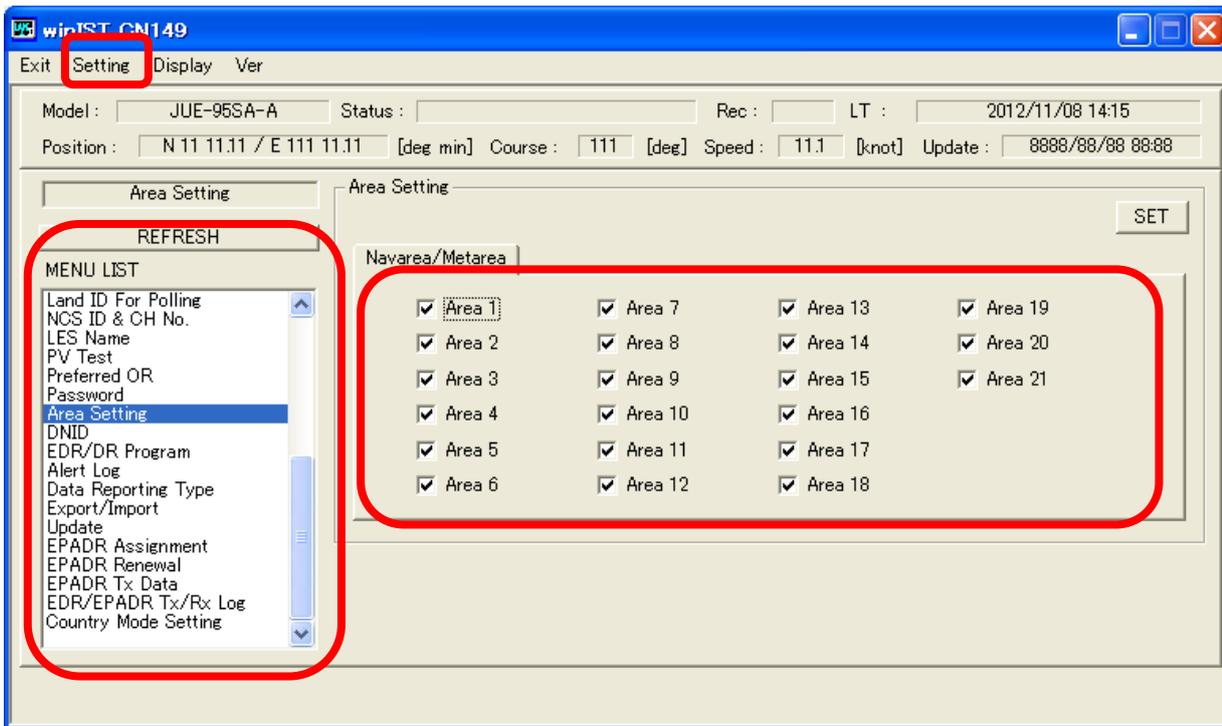

Fig. 4-26-1 Area Setting screen
2. Operation except [Exit], [Display], and/or [Ver] is not possible while winIST is communicating with INMARSAT terminal (the function in the frame of Fig. 4-26-1 Area Setting screen cannot be operated.)
4.Operation except [Exit], [Display], and/or [Ver] is not possible while winIST is communicating with INMARSAT terminal(the function in the frame of **Fig. 4-26-1 Area Setting screen** cannot be operated.)